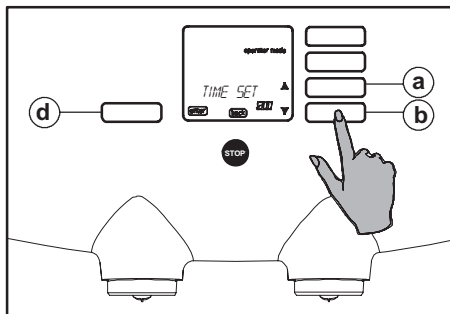

Fig. 57 Time setting
16. Press the enter button (fig. 57 d) and change the time with the scroll buttons \updownarrow (fig. 57 a or b).